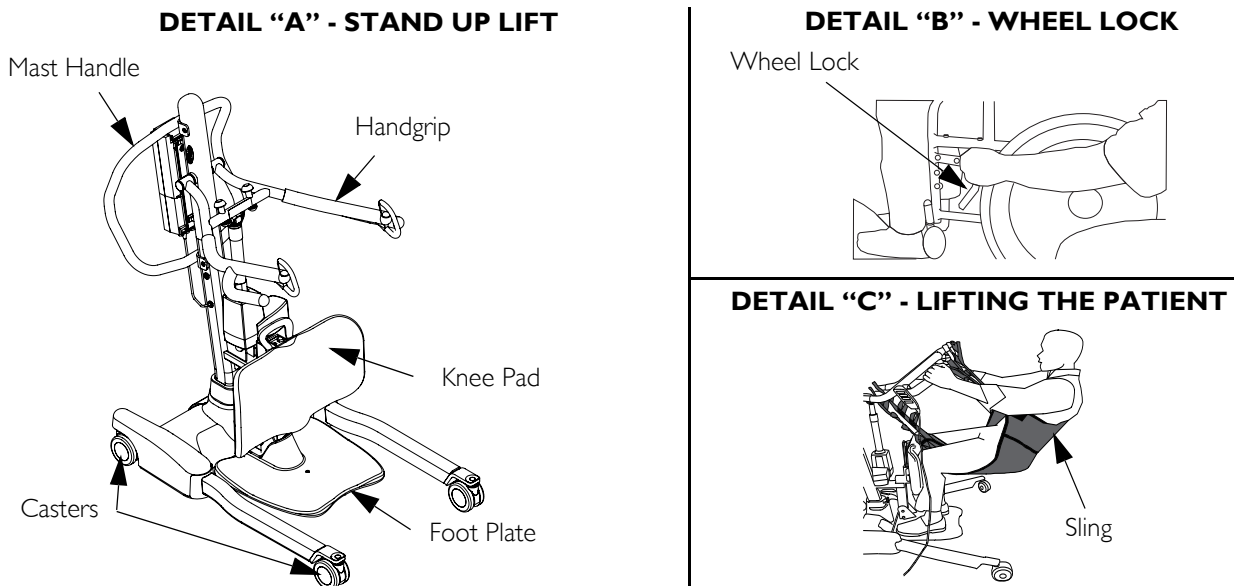

FIGURE 4.2 Lifting the Patient
NOTE: For this procedure, refer to FIGURE 4.2 on page 16.
1. Instruct the patient to hold onto the hand grips on both sides of the stand up lift (Detail "A" of FIGURE 4.2).
4. If transferring from a wheelchair, lock the wheel locks on the wheelchair (Detail "B" of FIGURE 4.2).
5. Press the UP arrow button on the hand control to raise the patient above the surface (bed, wheelchair or commode). The patient's weight will be fully supported by the stand up lift (Detail "C" of FIGURE 4.2).